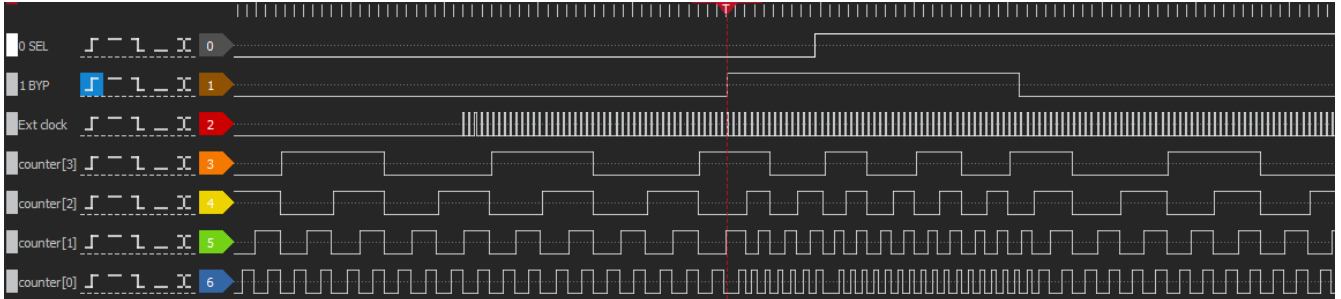

Figure 6: Change in sel and byp line to produce PLL_FOUT of different frequencies
10. Connect the GPIO2 to the Synchronous Logic Generator, Configure GPIO0 and GPIO1 as buttons or synchronous Logic Generators to function as sel and byp signals for PLL_CLK_CTRL_SEL and BYP_SEL and then observe the output from GPIO3, GPIO4, GPI5 and GPIO6 on logic analyzer. In Figure 6 it can be observed that when there is a change in the sel and byp signals, then there is a corresponding change in the frequency of the switching of the counter depicting that the PLL is being driven by 2 different clock sources.